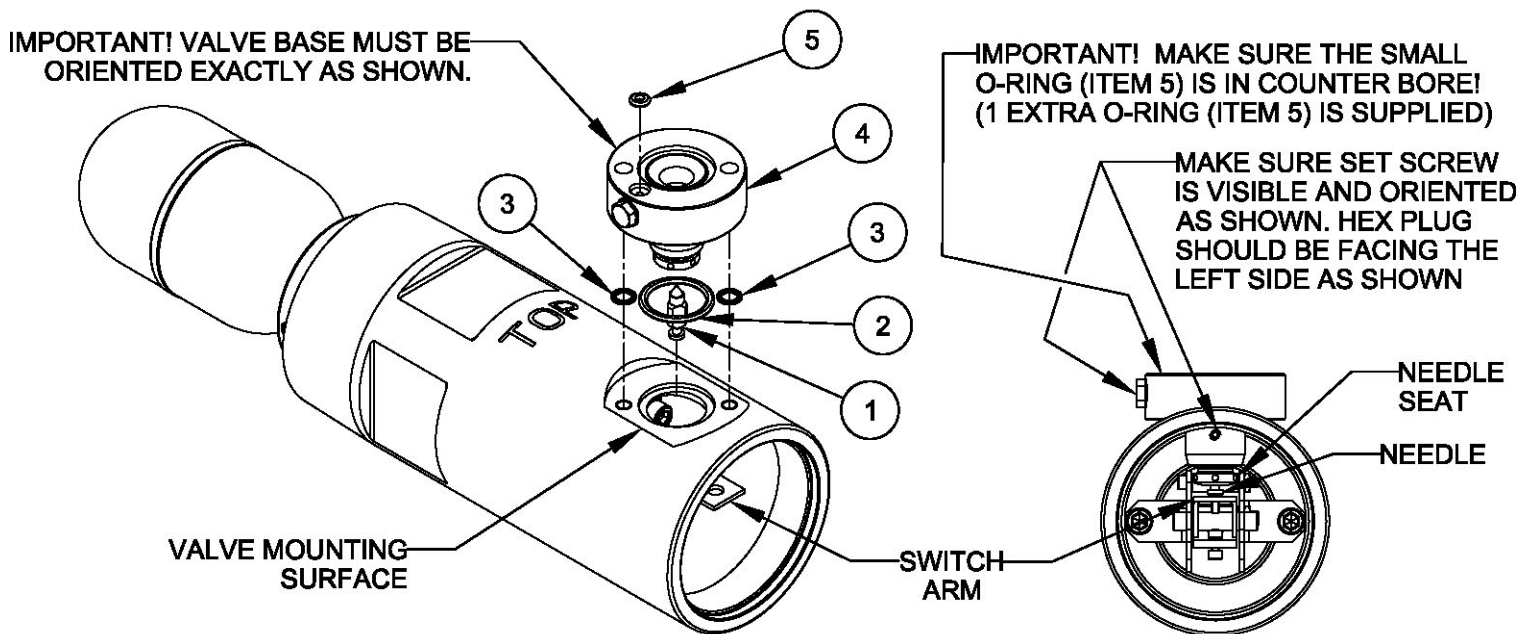

Figure 2
2. Insert the o-ring (item #2) into the large counter bore in the valve mounting surface on the Switch Body. It is the counter bore directly under item #2 in Figure 2.
7. With the Valve Base fully seated and properly oriented, place the o-ring (item #5) into the small counter bore on top of the Valve Base as shown in figure 2.